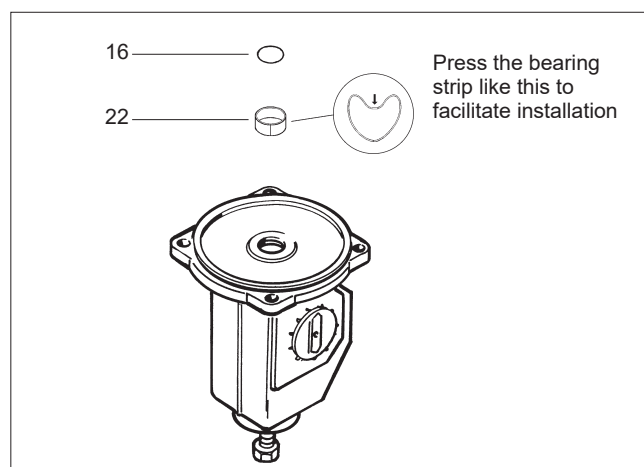
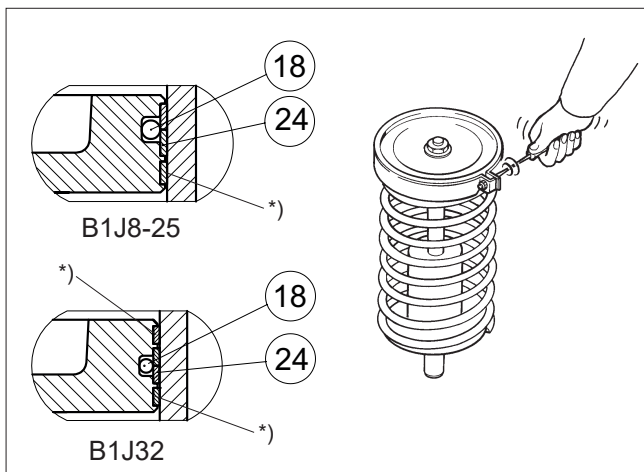
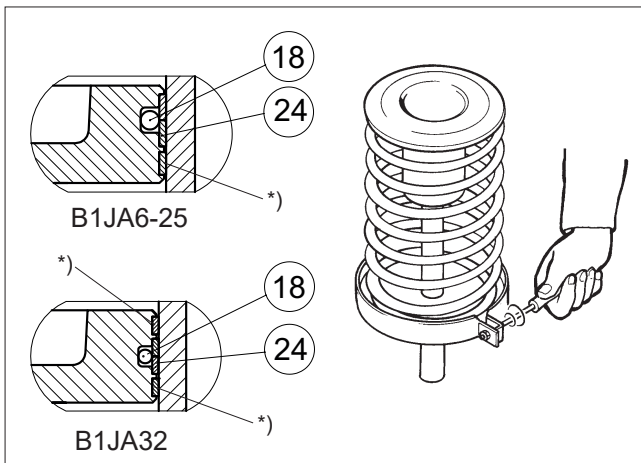

Fig. 11 Mounting the piston rod bearing and seal
Fig. 12 Tightening piston seals with a tie ring
Fig. 18 Tightening piston seals with the tie ring
- Lubricate seal space and new O-ring with Unisilikon L250L or equal silicone grease. Install new bearing and O-ring, see Fig. 11.
- Install the O-ring (18) located under the piston seals.
- Place piston seals (24) around the piston so that the ends of the strips are located at opposite sides. Tighten the strips with a tie ring as in Fig. 12. Strips indicated with an asterisk can be cut 1.5 to 3 mm shorter to facilitate assembly.
- Remove the cylinder base side stop screw (27).
- Remove cylinder fastening screws (31) from the cylinder base (6) side. Lift the cylinder off together with the end.
- Remove housing cover (2).
- Turn the linkage enough to expose the bearing unit fastening screw (29). Open the screw.
- Remove piston rod seal (16) and bearing (22). Clean the seal space.
- Lubricate seal space and new O-ring with Unisilikon L250L or Molykote III. Install new bearing and O-ring, see Fig. 11.
- Place piston seals (24) around the piston so that the ends of the strips are at opposite sides. Tighten the strips with a tie ring as in Fig. 18. Strips indicated with an asterisk can be cut 1.5 to 3 mm shorter to facilitate assembly.